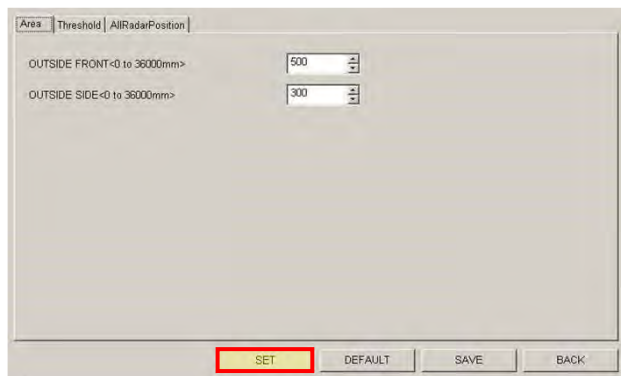

FIGURE 30-48. AREA SCREEN
7. Select RADAR SETTING in the maintenance screen (Figure 30-46). In the Area tab, select the SET button. See Figure 30-48.